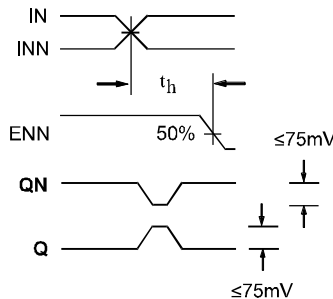

Figure 2. Hold Time
6. The hold time is the minimum time that ENN must remain asserted after a negative going IN or a positive going INN to prevent an output response greater than ± 75 mV to that IN/INN transition (see Figure 2).